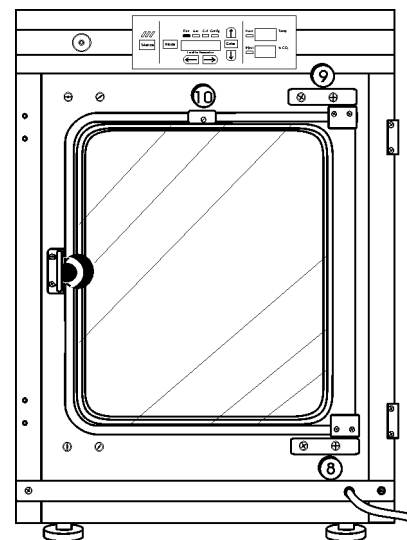

Figure 5-6. Reversed Components
17. Screw the threaded plugs into the holes vacated by the door hinge brackets where indicated in Figure 5-6.
18. Install the door open switch target plate. Refer to Figure 5-6 and 5-7. The plate must be positioned exactly 12.5 inches from the outside edge of the cabinet to the leading edge of the plate. Do not overtighten.